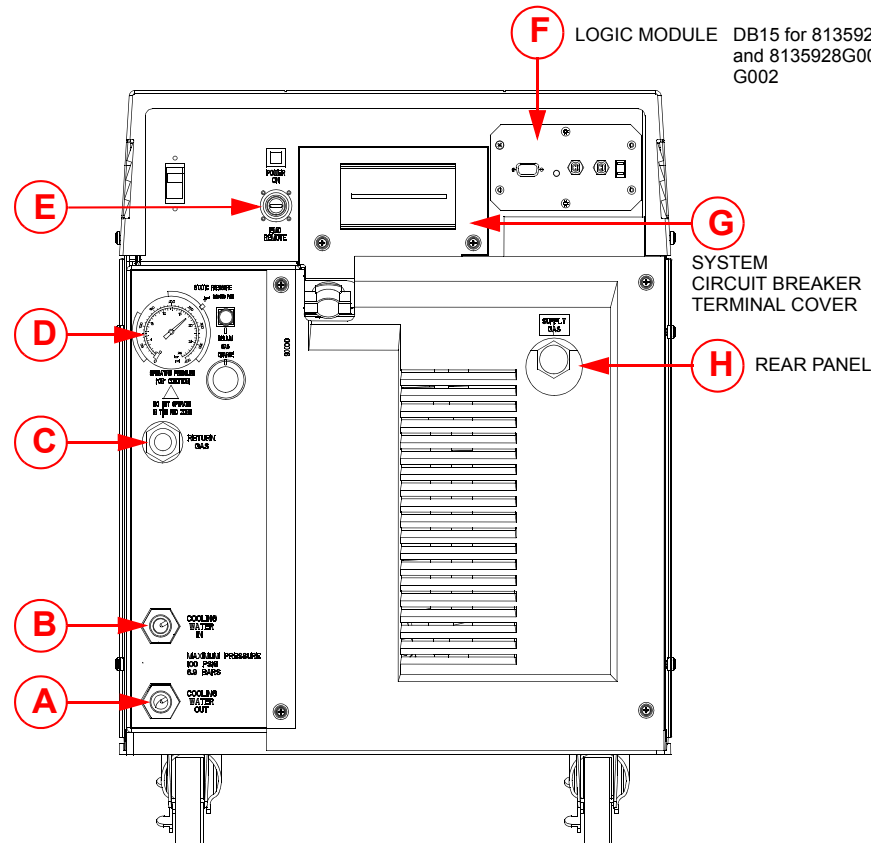

Figure 1: On-Board IS 1000 Compressor Installation Points
3. Remove the Rear Panel as shown in *Figure 1*.
4. Remove the System Circuit Breaker Terminal Cover as shown in *Figure 1*.
5. Install the cable into the Compressor through the cable strain relief as shown in *Figure 1*, Detail C.
6. Remove the 10-32 nut and install the grounding wire on the ground stud as shown in *Figure 1*, Detail C. Replace the nut and tighten to 18 in.-lbs (0.21m-kg).
8. Install the conductor terminal lugs to the circuit breaker terminals X, Y and Z in *Figure 1*, Detail C.